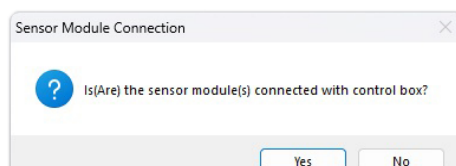

Figure 18. Select RS485 from the drop down menu
5. Next, click "No" button as in Figure 18.